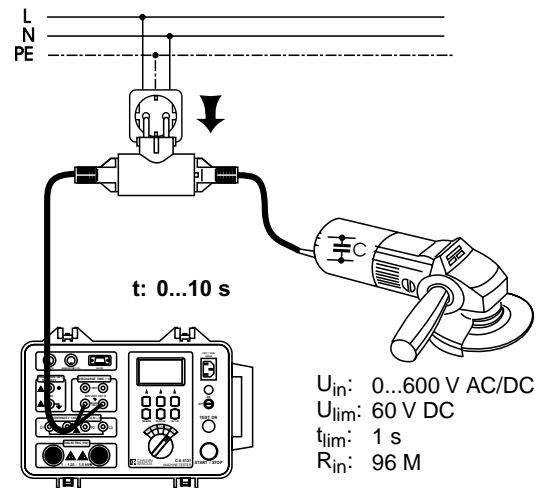

Fig.22. Connection of the test leads
2. Select 2-pole system by pressing the SYST. key (2-point 1s is displayed)
3. Connect the test cable to the instrument and to the tested unit in accordance with figure 22 ; le  symbol is displayed above unit S, informing the user that the mains voltage is connected to the MAINS TEST input.